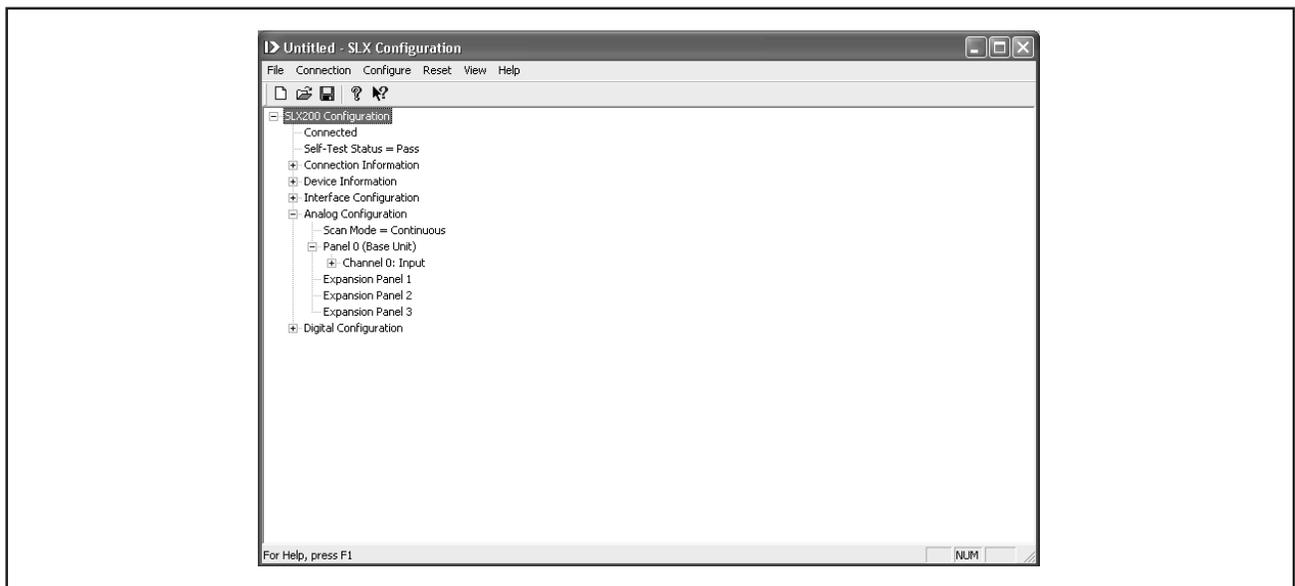

Figure 1.5
(1) In the **Configure Analog Channel States** dialog box, select “Input” from the drop-down list-box.
(2) Click the **Configure** button in the top right corner to send isoLynx its new configuration. After a short communication pause, the isoLynx SLX200 Base Unit Controller is now configured. The **Configure Analog Channel States** dialog box disappears.
(3) At this point, the SLX Configuration utility reverts to the View Pane. Figure 1.5 has the “Analog Configuration and Panel 0 (Base Unit)” lines expanded to confirm that Channel 0 has been configured as an input.